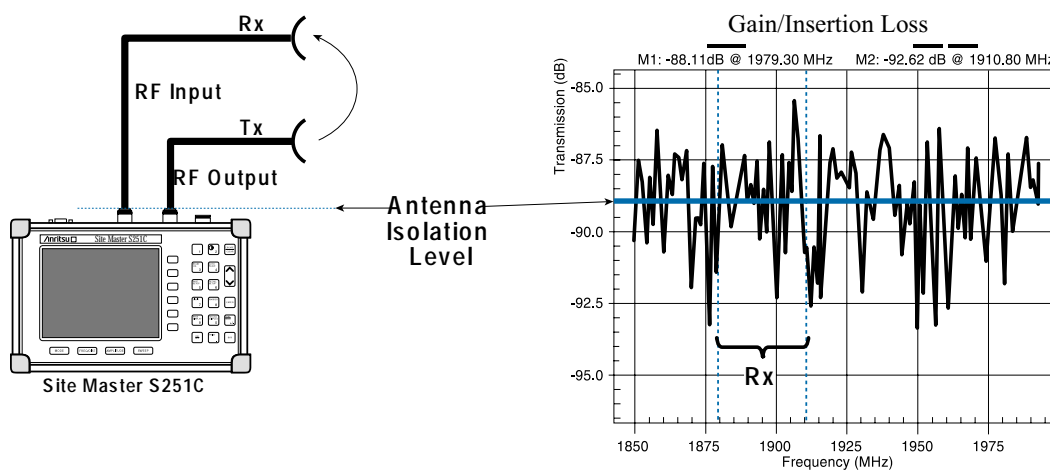

Figure 4-17. Typical Antenna Isolation Measurement Display
- Step 9.** Press the **LIMIT** key and set the limit line to the estimated average signal level. Figure 4-17 displays a typical antenna isolation measurement display.